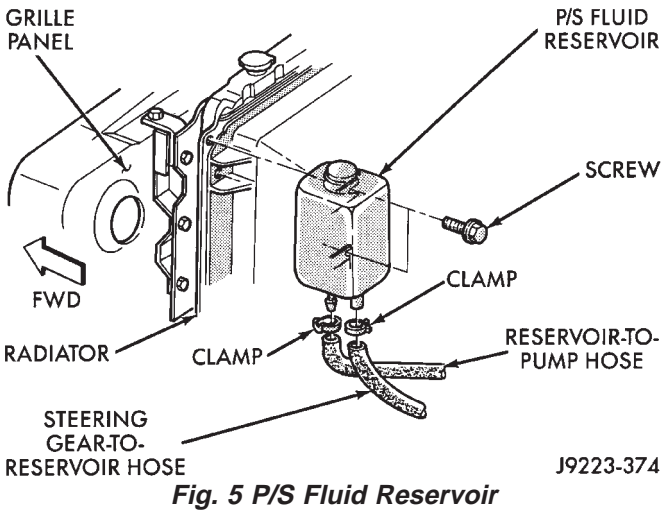

Fig. 5 P/S Fluid Reservoir
(4) Remove the retaining screws and the P/S fluid reservoir from the grille panel (Fig. 5).
(7) Install the P/S fluid reservoir on the grille panel (Fig. 5). Tighten the retaining screws to 8 N·m (72 in-lbs) torque.